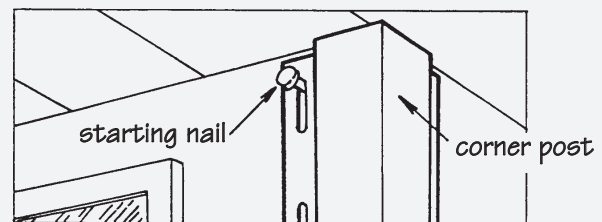

Figure 17.
- Space the fasteners a maximum of 16" apart for the horizontal siding panels, every 12" for the vertical siding panels, and every 8" to 10" for the accessories. Start fastening vertical siding and corner posts in the top of the uppermost slots to hold them in position. Place all other fasteners in the center of the slots (Fig. 17).